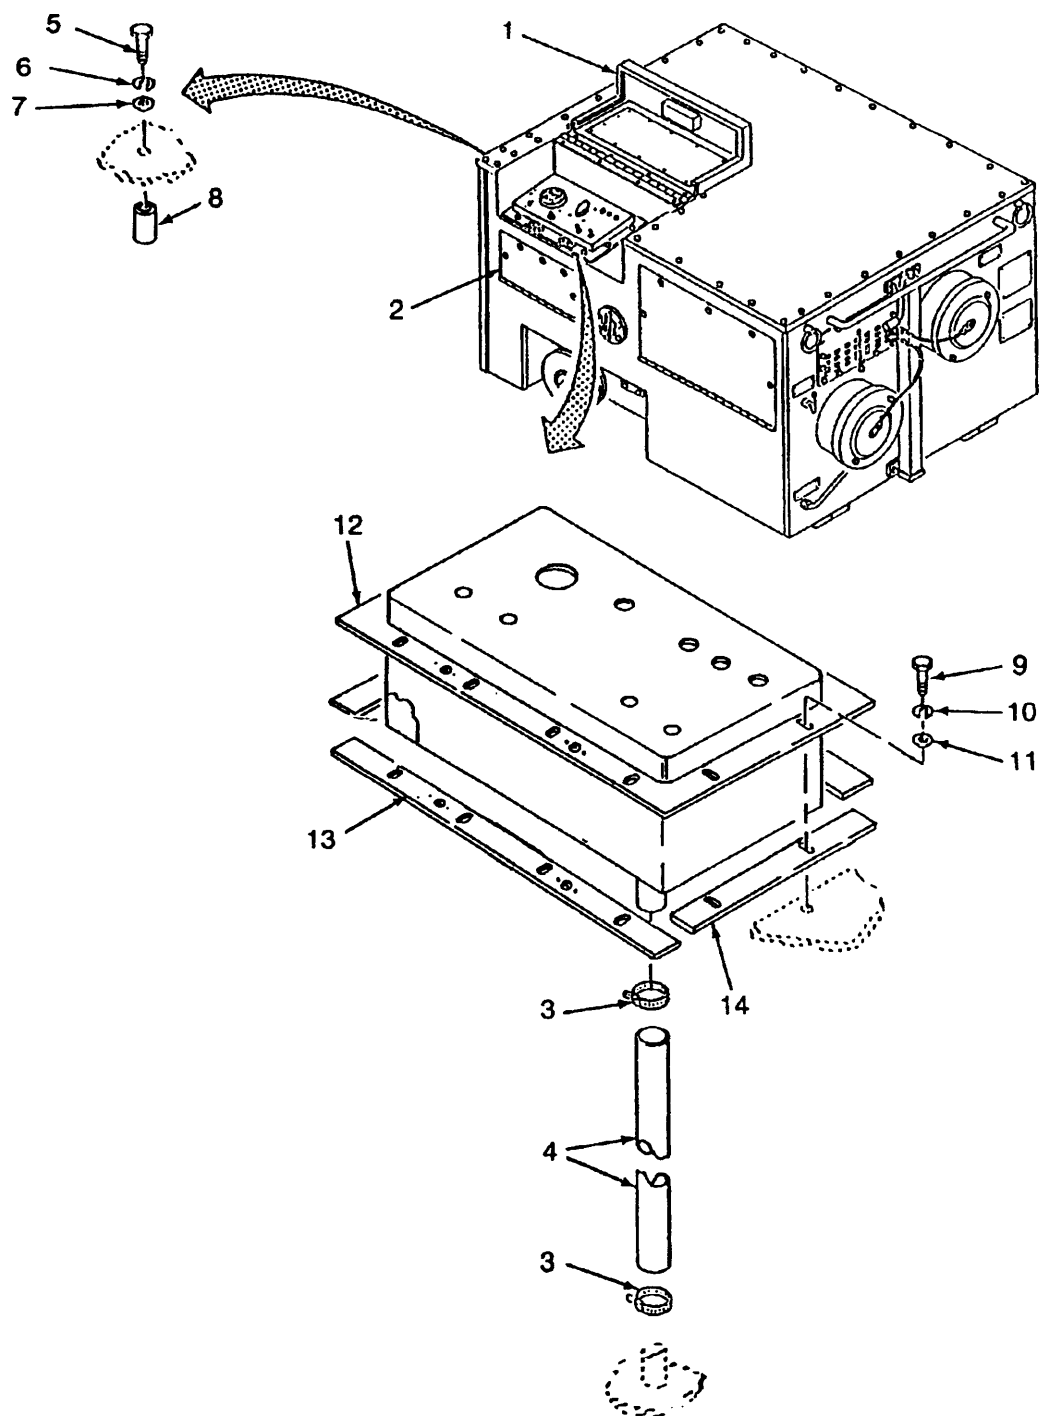

Figure 5-2. Control Box Removal
a. Removal (Refer to Figure 5-2)
- (1) Open control panel cover (1) and right side rear door (2).
- (2) Loosen two clamps (3) and remove hose (4) and clamps (3).
- (3) Remove screw (5), lockwasher (6), flat washer (7) and bar (8). Discard lockwasher.
- (4) Remove twelve screws (9), twelve lockwashers (10) and twelve flat washers (11). Discard lockwashers.
- (5) Lift control box (12), two gaskets (13) and two gaskets (14). Discard gaskets.